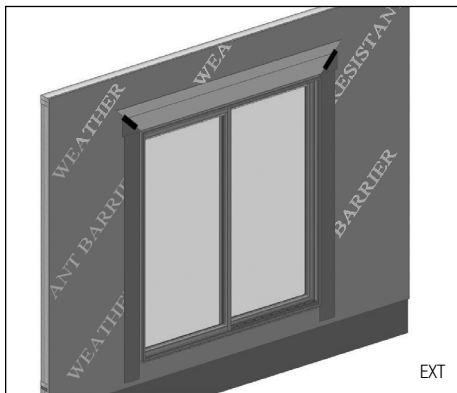

FIG. 17
- E) Tape the cut seams of the WRB. (Fig. 17)